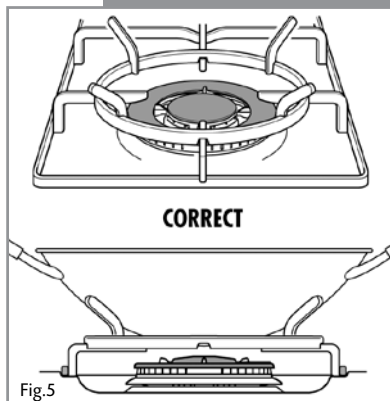

Fig.5
When using a wok, always place the wok pan adaptor in position over the pan support on the Triple Ring burner as shown in Fig.5.
- The wok pan adaptor (Fig.5) must be placed over the pan support on the Triple Ring burner.